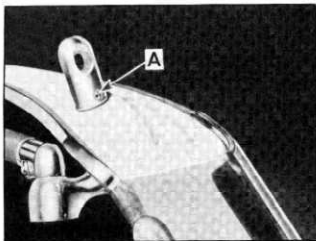

Fig. 52—Windshield Header Dowel Adjustment
1. Loosen set screw "A" in header dowel and turn dowel up or down to desired position. Retighten set screw and check operation (fig. 52).